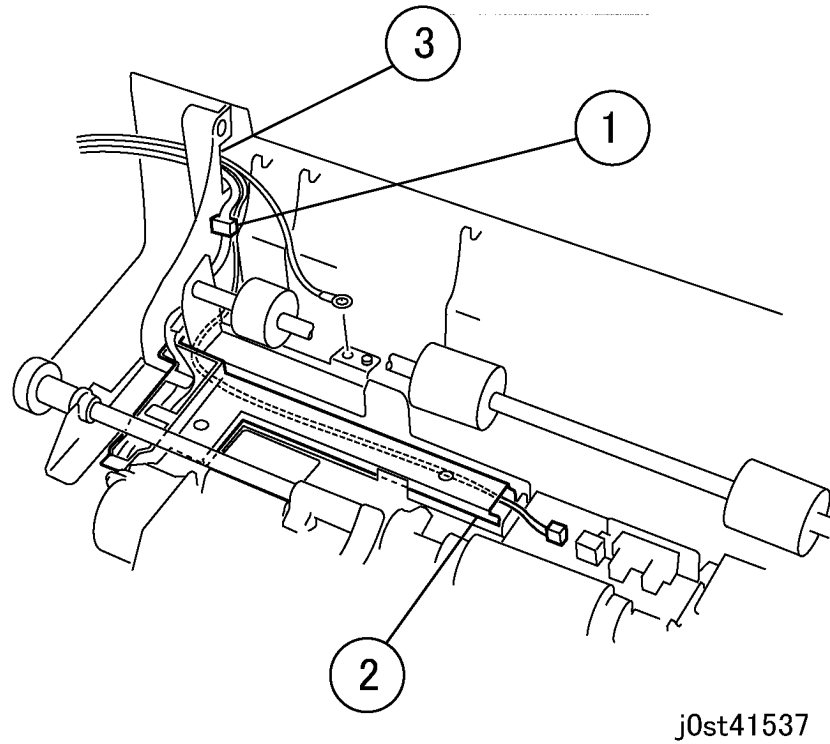

Figure 6 Removing the Wire Harness (j0st41537)
8. Remove the Wire Harness from the Top Cover. (Figure 6)